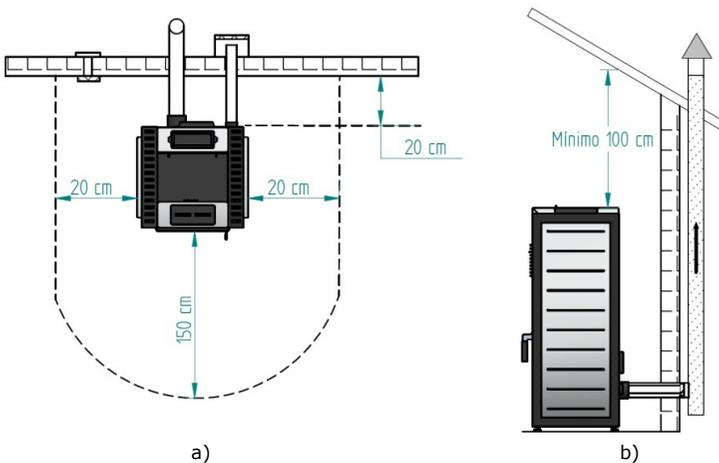

Figure 15 - Minimum distances from all surfaces: a) upper view of the unit's installation; b) side view of the unit's installation
The minimum distance between the free standing pellet fire unit and particularly flammable surfaces is specified in Figure 15. The top of the unit must be at least 100cm separated from the ceiling, especially in rooms with ceilings consisting of flammable materials. The base supporting the unit cannot be made of combustible material (e.g. carpet), so make sure you use an adequate protection.
- As indicated in Figure 15, the exhaust pipe must be assembled so as to allow cleaning and maintenance of the pipe by inserting inspection points.